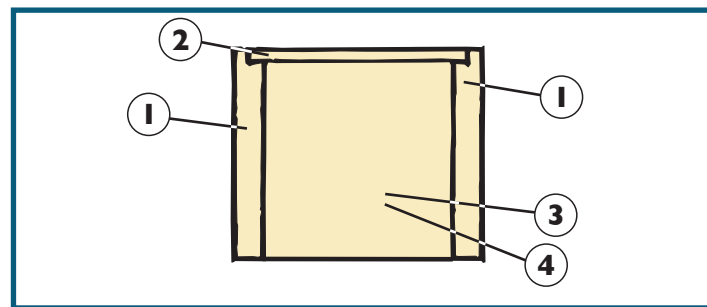

Fig. 1
1. Cut all of the materials as listed in the materials list below. On the Side Panels (1) cut a 3/8" wide by 1/4" deep rabbet. **Fig. 1**. On the Top Molding (5), Base Molding (6) and Base (7) route a decorative edge as desired.